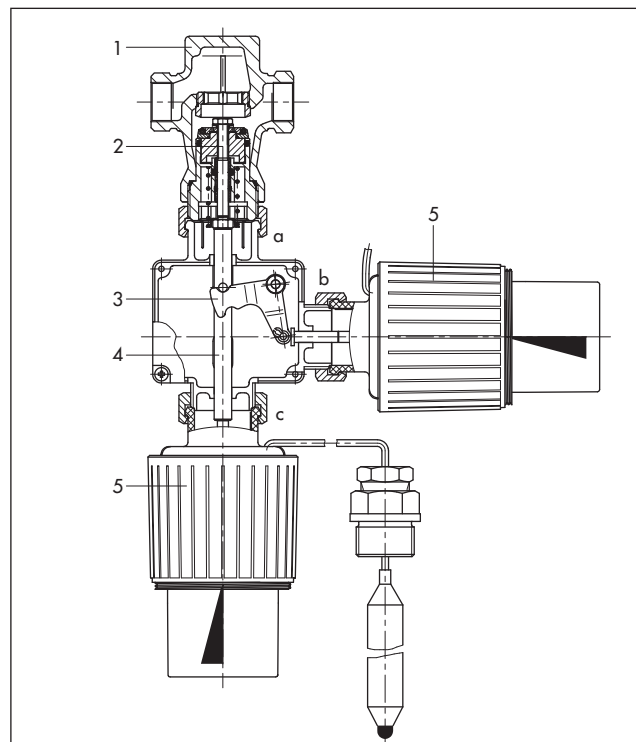
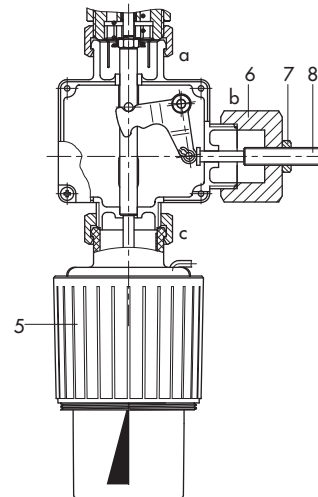

Fig. 3 · Type 2431 K Valve and double adapter Do3 K with two Type 2430 K Thermostats
Fig. 4 · Double adapter Do3 K, Type 2430 K Thermostat and manual adjuster
Double adapter Do3 K with manual adjuster (Fig. 4) · To manually close the valve or to limit its travel · Connection c for control thermostat, connection b for manual adjuster.
Principle of operation (Figs. 3, 4 and 5)
The **double adapter** mounts between the valve (1) and the control thermostat (5) and allows two control thermostats to be attached to connections b and c (Fig. 3). A manual adjuster can be attached to the double adapter at connection b to limit the valve travel (Fig. 4).